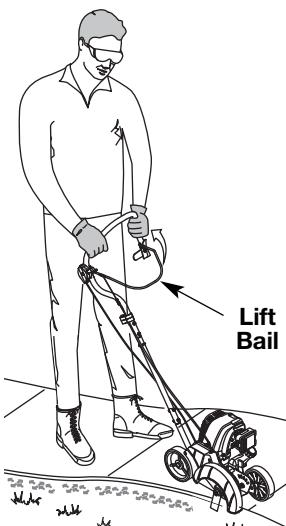
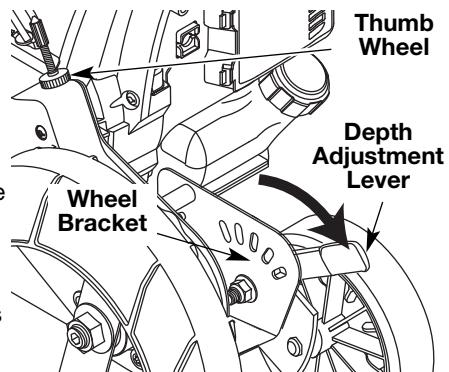

Fig. 16
Fig. 17
Before operating the unit, stand in the operating position (Fig. 16). Check for the following:
- The edger wheel adjusted for proper cut depth as shown in Figure 17 and edger positioned as shown in Fig. 16.
1. Grasp the depth adjustment lever located beside the front wheel (Fig. 17).
2. To raise the cutting blade, move the lever toward the front of the wheel bracket (Fig. 17).
2. Lift the bail (Fig. 16) and hold it against the unit's handle to engage the blade and keep it rotating.
1. Locate small thumb wheel on top of the belt housing (Fig. 17).